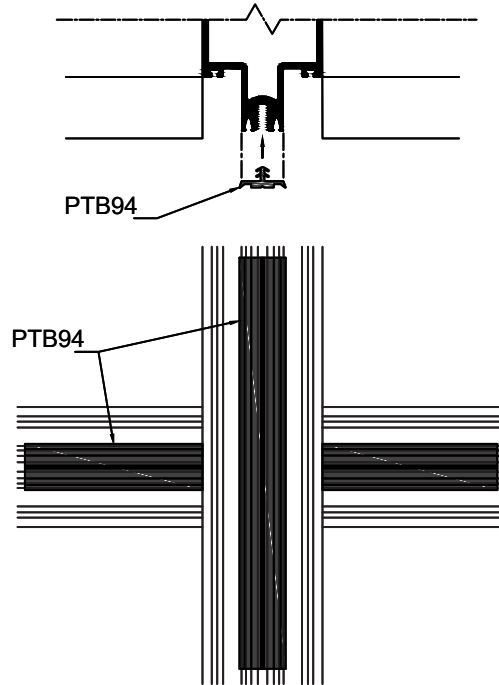

Fig. 35.1
- B. Install P6551, 1/4" x 3/8" tape into vertical mullions. See Fig. 35.1. Vertical spacers run 5/8" beyond the DLO line.